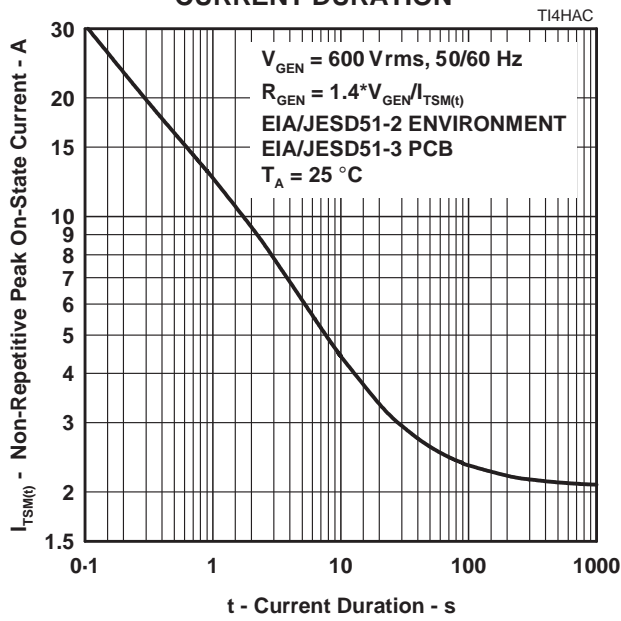

Figure 6.
4. EIA/JESD51-2 environment and EIA/JESD51-3 PCB with standard footprint dimensions connected with 5 A rated printed wiring track widths. See Figure 6 for the current ratings at other durations. Derate current values at $-0.61\%/^\circ\text{C}$ for ambient temperatures above 25°C .